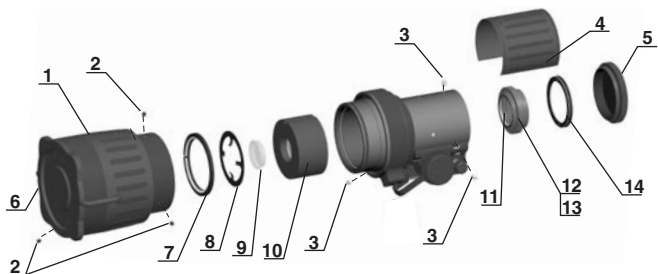

FIGURE 4-1. TUBE REPLACEMENT
- Loosen three fixing screws (Figure 4-1, 2).
- Unscrew and remove the objective lens (Figure 4-1, 1).
- Unscrew and remove the lock ring (Figure 4-1, 7).
- Draw out the spring washer («Glass/GLASS» tube only, Figure 4-1, 8).
- Accurately separate the compensator glass (Figure 4-1, 9) from the tube for second using.
- Install the spring washer («Glass/GLASS» tube only, Figure 4-1, 8).
- Apply small amount of thread locker and screw the locking ring (Figure 4-1, 7). Do not over tighten it.
- Screw the objective lens (Figure 4-1, 1); put the lens cap (Figure 4-1, 6) on.
- Unscrew fixing screws (Figure 4-1, 2) one by one, drill dimples through the holes in the housing, apply small amount of thread locker and secure the objective lens with fixing screws.
- Carefully separate the rubber cover (Figure 4-1, 4) from the sight body and remove it.
- Unscrew and remove the lock ring (Figure 4-1, 14).
- Loosen three adjusting screws (Figure 4-1, 3).
- Cut out old sealant and remove output lens assembly (Figure 4-1, 11).
- Replace the output lens assembly (Figure 4-1, 11) and tighten three adjustment screws (Figure 4-1, 3) lightly.
- Screw and tighten lightly the lock ring (Figure 4-1, 14).
- Rotate output lens (Figure 4-1, 11) with focus wrench to achieve parallax free image.
- Looking through the telescope, turn adjustment screws (Figure 4-1, 3) to match image of collimator crosshair with crosshair of the telescope.
- Fill the gap between the output lens assembly (Figure 4-1, 11) and sight body with sealant.
- Screw the lock ring (Figure 4-1, 14) and tight it firmly.
- Put the rubber cover (Figure 4-1, 4) onto the sight body and secure it with glue.